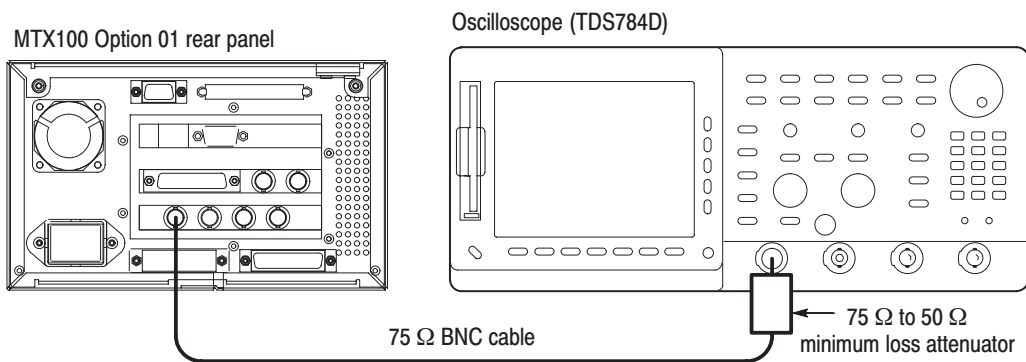

Figure 4-6: Initial equipment connection for verifying the ASI interface
1. Use the 75 Ω BNC cable and the 75 Ω to 50 Ω minimum loss attenuator to connect the ASI OUT 1 connector on the MTX100 Option 01 to the oscilloscope CH1 input as shown in Figure 4-6.